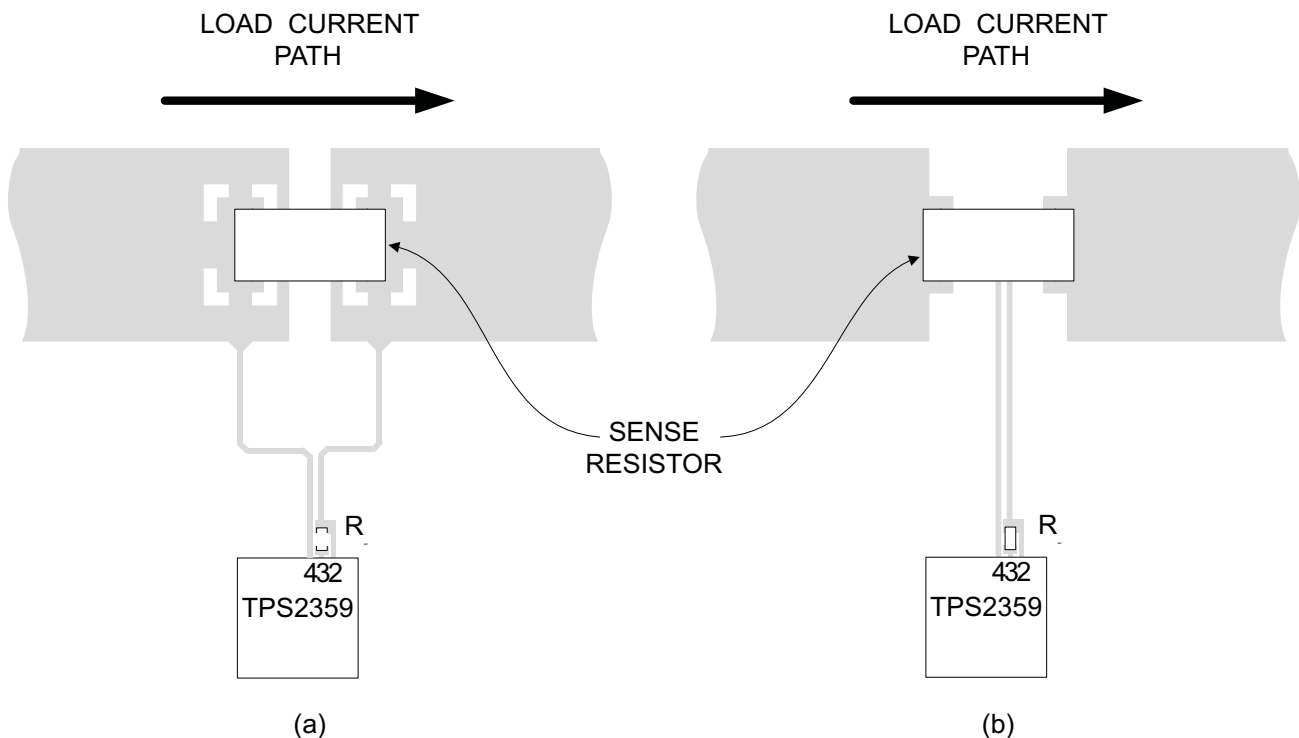

Figure 28. Recommended R_{SENSE} Layout
2. SENMx and SENPx runs must be short and run side by side to maximize common mode rejection. Kelvin connections should be used at the points of contact with R_{SENSE} (Figure 28).